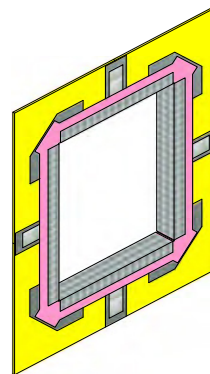

Figure 22
4. Cut a length of 9-inch MasterSeal AWB 975 FIB that extends to the full length of the sill, allowing a minimum 2" overlap onto embedded MasterSeal AWB 975 FIBs. (See Figure 22).
8. Repeat steps 3 – 6 on the head and jambs. (See Figure 22).